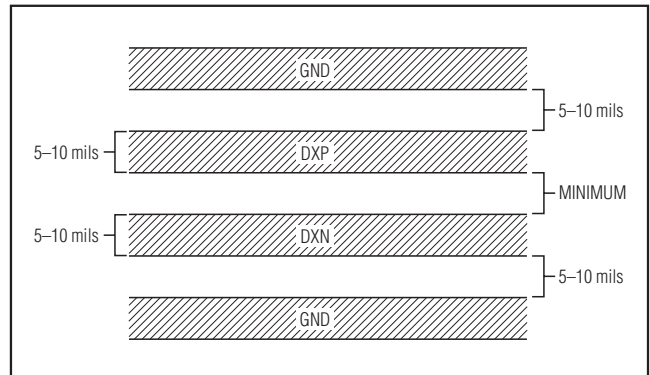

Figure 5. Recommended DXP-DXN PCB Traces. The two outer guard traces are recommended if high-voltage traces will be near the DXN and DXP traces.
- Route the DXP and DXN traces in parallel and in close proximity to each other. Each parallel pair of traces should go to a remote diode. Route these traces away from any higher voltage traces, such as +12VDC. Leakage currents from PCB contamination must be dealt with carefully since a 20M $\Omega$  leakage path from DXP to ground causes about +1°C error. If high-voltage traces are unavoidable, connect guard traces to GND on either side of the DXP-DXN traces (Figure 5).